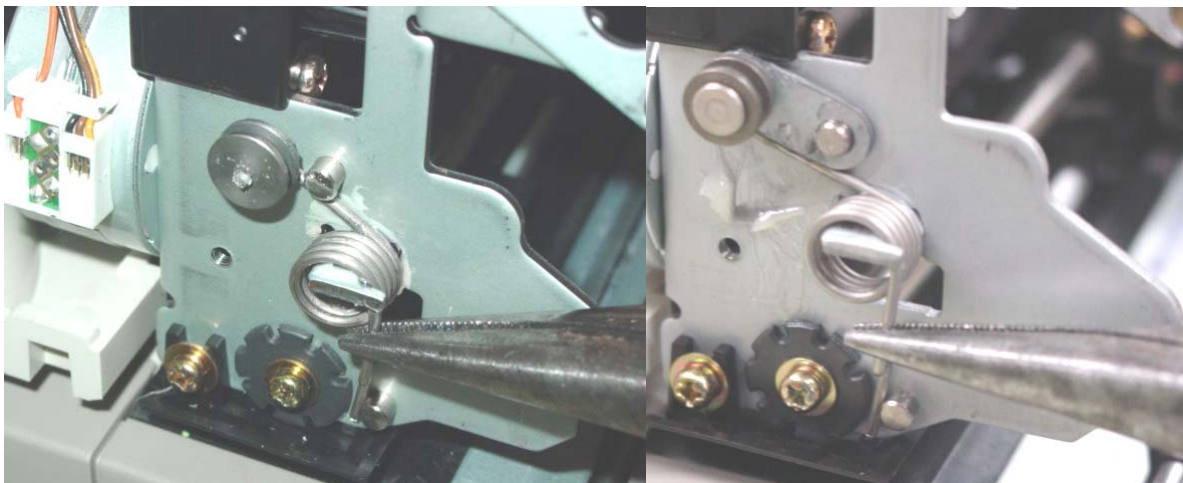

Figure 10 - Removing Hinge spring and roller
4. Remove the Hinge Spring and Hinge Roller as shown (Figure 10). Note: parts can be different between 7167 models.